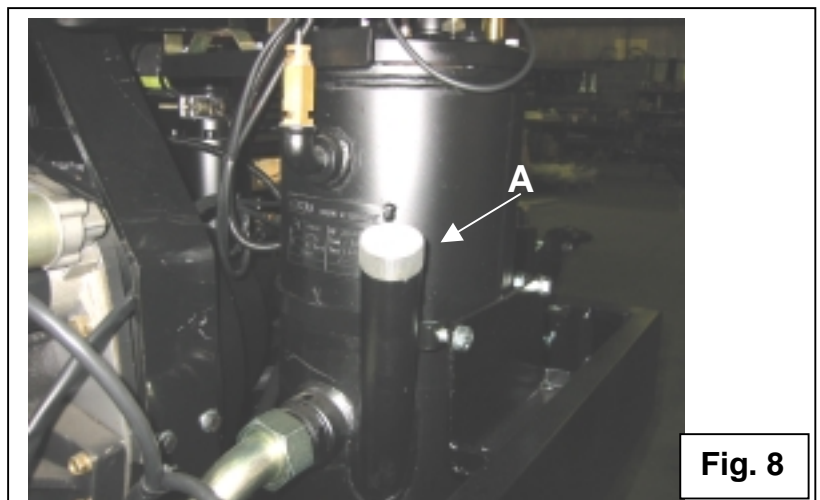

Fig. 8
- Before unscrewing the cap of the filler (Fig. 8 part A) to which the graduated level rod is fixed make sure that the system is no longer under pressure (**the manometer should indicate 0 bar**)